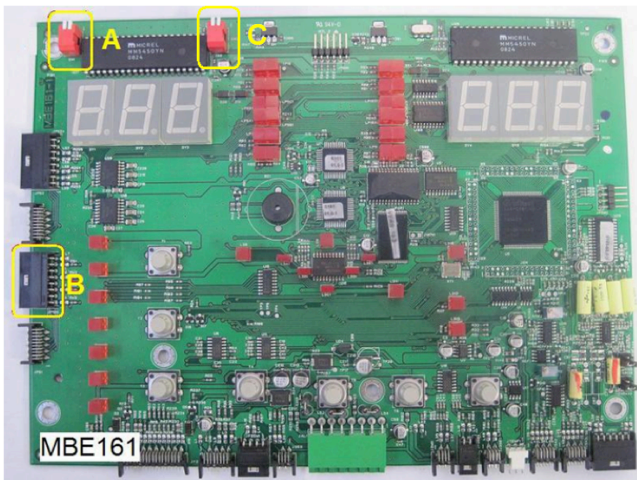

Fig. 2
- With the machine switched off set the deep-switch (A, fig. 2) which is necessary for the programming based on the card to be updated:
- Connect one end of the serial cable code 8-21100224 to the "JPS1A" connector of the card (B, fig. 2) and the other end to the RS232 serial port of the PC. If the PC does not